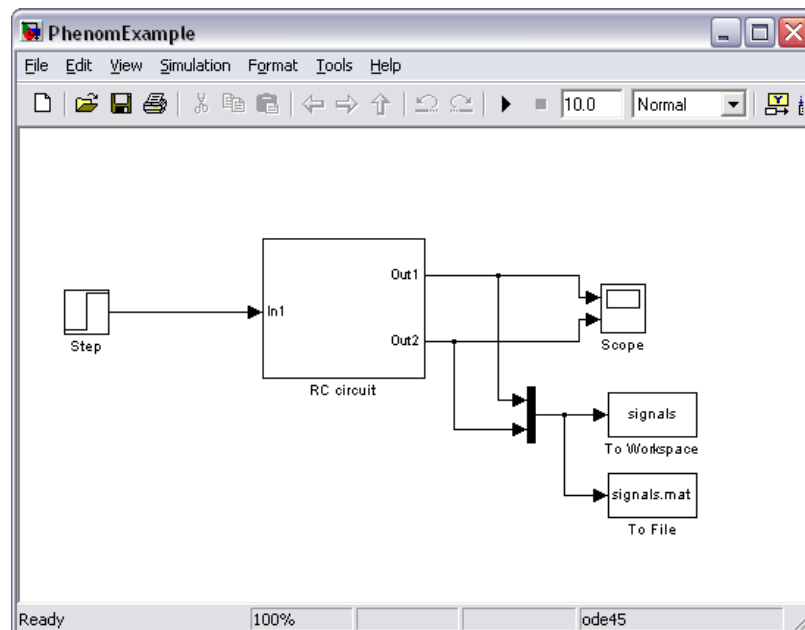

Figure 10 Phenomenological model example
The following window should open (Figure 10):
- Run the simulation using the 'Start simulation' button (Figure 10). Open the scope to view the simulation signals. To open the scope parameters window click on the icon. To set axes properties right-click on the scope plot and select 'Axes properties'.